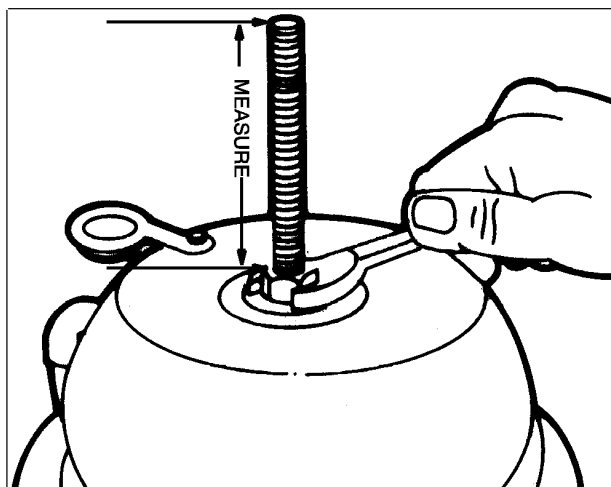

Figure 13 Turn Release Nut Clockwise Until Measurement Is Obtained
7. Use a 3/4-inch wrench (15/16-inch wrench for models TR3036 and TR3636) (**DO NOT USE AN IMPACT-TYPE WRENCH**). Turn the release nut clockwise until the bolt extends above the nut (Figure 13(See Figure 13, page 10)) by the amount listed in Table 1.